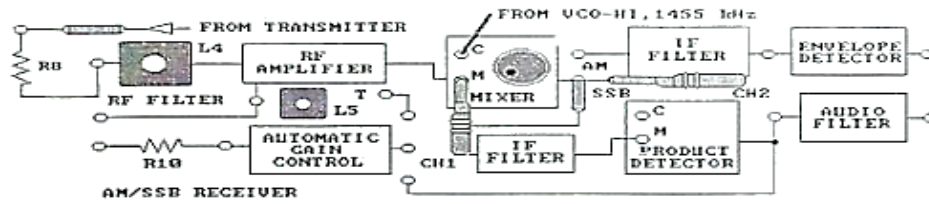

Figure 5-21.
8. Connect the circuit and the oscilloscope channel 1 and 2 probes, as shown in Figure 5-21.